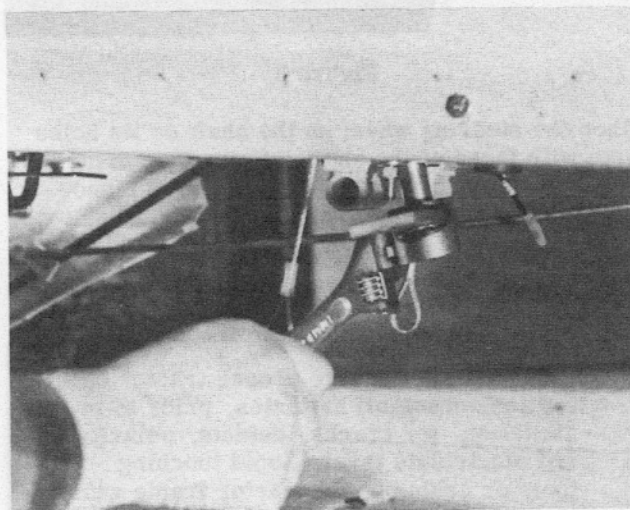

Figure 2
6. Install the woodruff key and steering arm (boss extending downward) on the lower end of the steering shaft below the frame so the boss is flush with the end of the shaft. Secure with the square-head setscrew. (See Figure 2.)